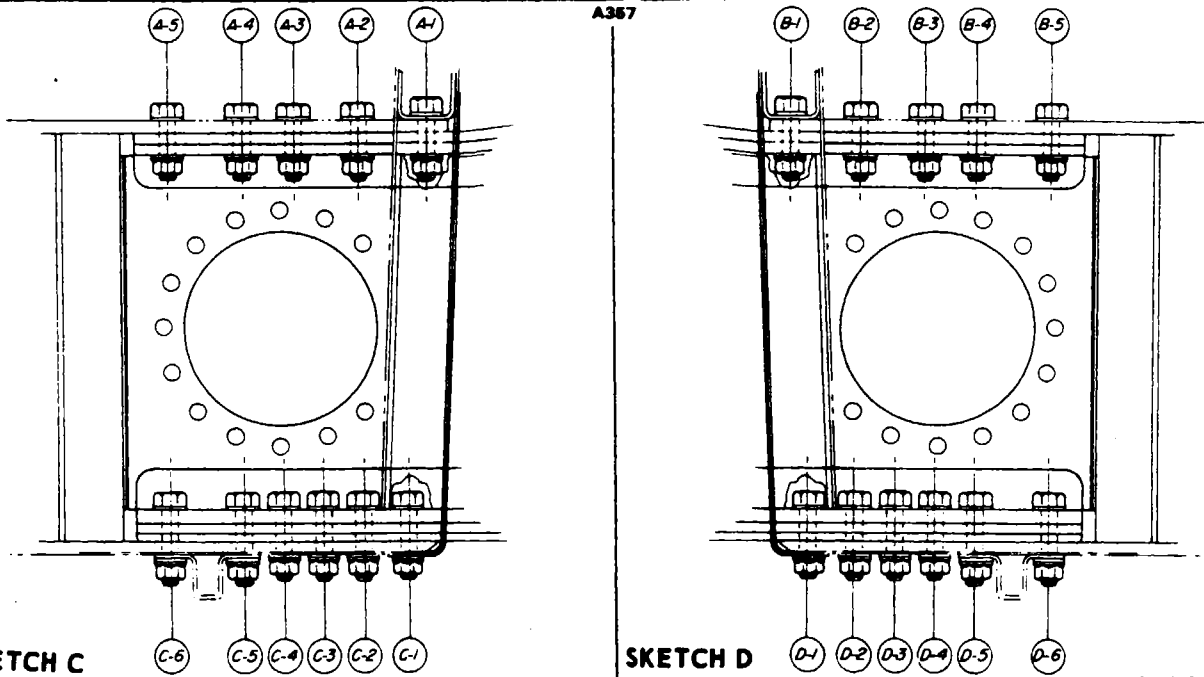

Figure 4-2. Wing Installation (cont.)
4-16. INSTALLATION OF WING. (Refer to Figure 4-2.)
- e. Install the main spar bolts in accordance with the information given in Figure 4-2, Sketches C and D.
- f. Install the bolt, washers, and nut that attaches the front spar and fuselage fitting. A minimum of one washer is required under the bolt head; then add washers as needed to leave a maximum of one and one-half threads visible or a minimum of bolt chamfer exposed. (Refer to Sketch A, Section A-A of Figure 4-2.)
- g. Install the bolt, washers, and nut that attaches the rear spar and fuselage fitting. It is acceptable to have the faces of the fittings against each other in which case the AN960-616L washer should be used under the bolt head. The AN960-616 washer may be added under the nut when not used as a shim. (Refer to Sketch B, Section B-B of Figure 4-2.) Check to insure that no threads are bearing on the forward plate prior to installing the nut.
- h. Torque the main spar bolts in accordance with specifications given in the bolt legend of Figure 4-2. The forward spar attachment bolt should be torqued to a maximum of 70 to 90 inch-pounds. The rear spar attachment bolt should be torqued to a maximum of 360 to 390 inch-pounds.